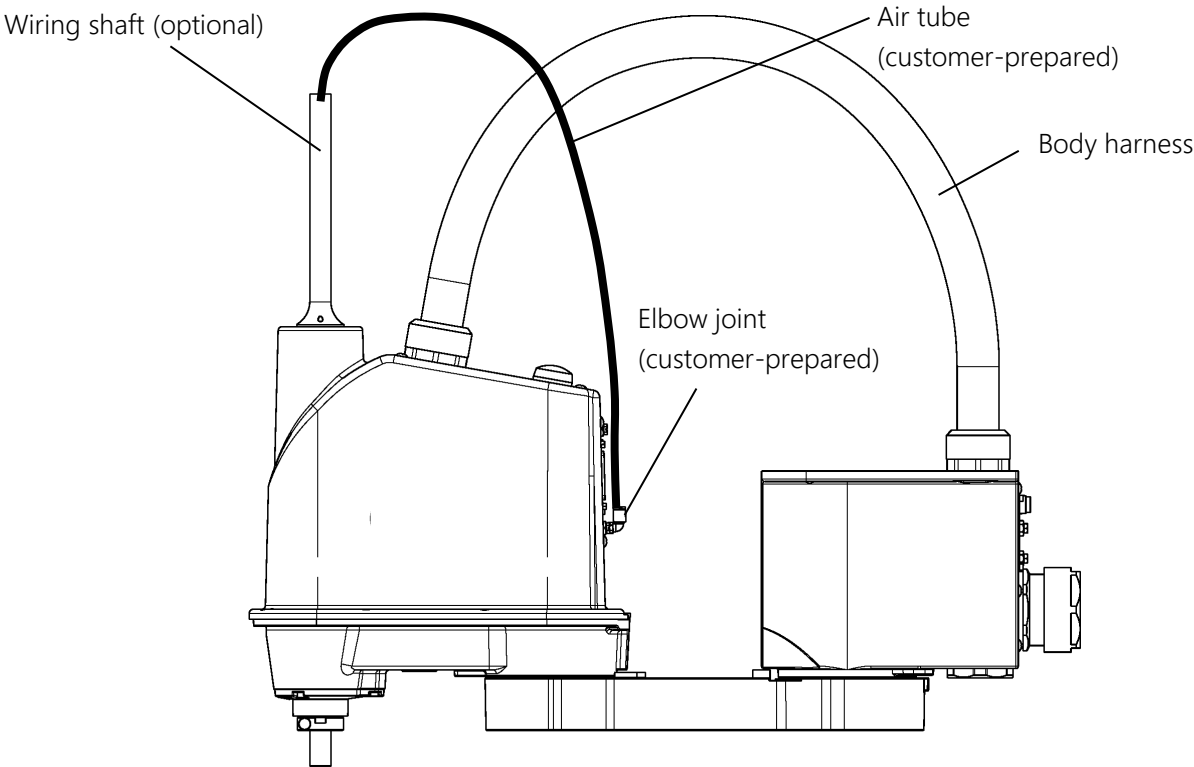

Fig. 4-1 Example of hand air piping and wiring
The hand air piping should be installed by the customer. Fig. 4-1 shows an example of installing hand air piping for reference.
- Fig. 4-1 shows a piping example. Note that the damaged air tube is not under our warranty.